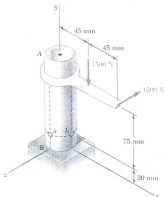

Figure. 1
1. Two forces are applied to the pipe AB as shown in Figure. 1 Knowing that the pipe has inner and outer diameters equal to 35 and 42 mm, respectively, determine the stresses at (a) point a , (b) point b . (25)